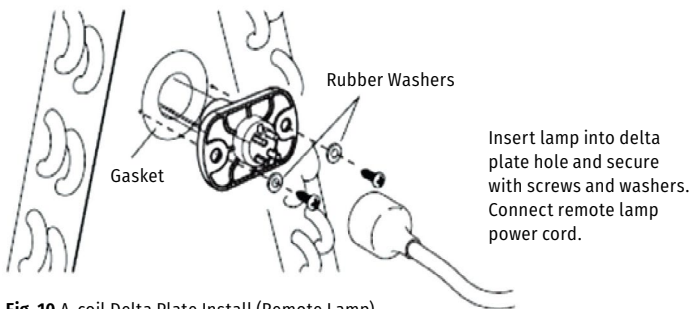

Fig. 10 A-coil Delta Plate Install (Remote Lamp)
1. (See Fig. 10) Drill a 7/8" hole into the delta plate and place gasket (included) around hole.